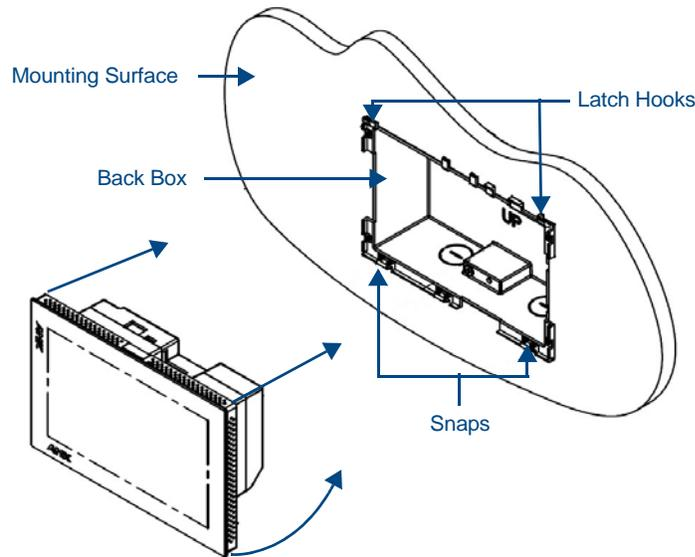

FIG. 18 Installing the MXD-701
12. Latch the panel onto the top hooks on the back box and push it down (Landscape) onto the bottom snaps or on the left side and push it to the right (Portrait) (FIG. 18). Press gently but firmly on the ends until the snaps “click” to lock it down.